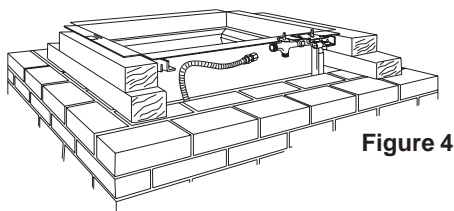

Figure 4
c. Lower your barbecue into place, making sure not to pinch or kink the gas connector. The unit may be supported above the counter by blocks inserted under the flanges at each side of the frame (Figure 4).